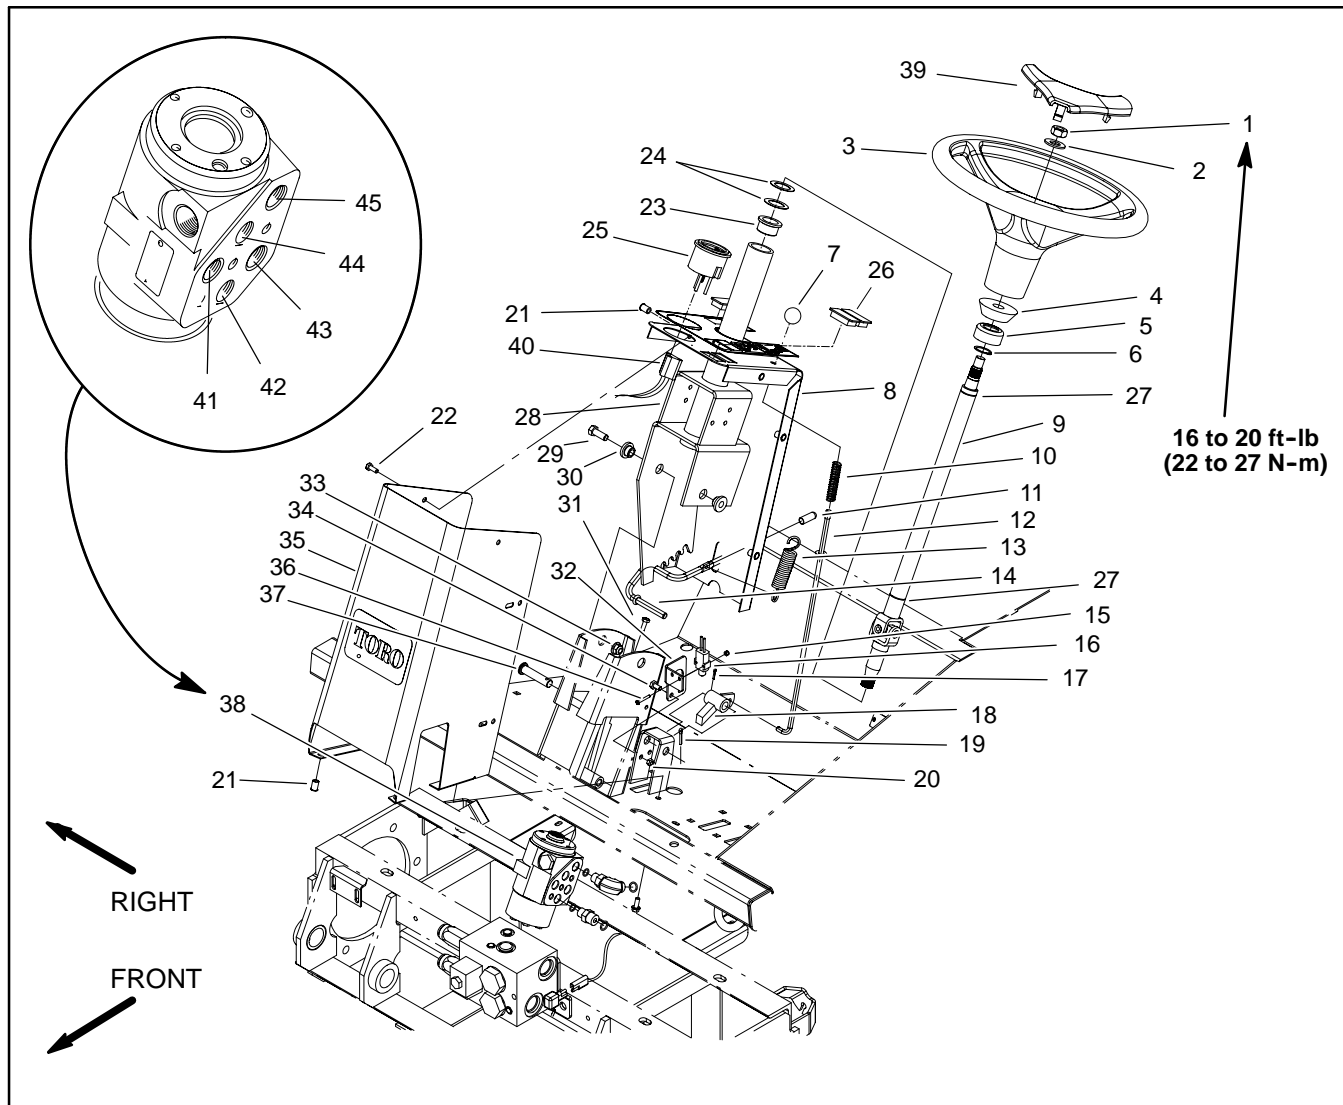

Figure 73
Removal (Fig. 73)
5. Remove steering control valve from machine using Figure 73 as a guide.
Installation (Fig. 73)
2. Install steering control valve using Figure 73 as a guide.